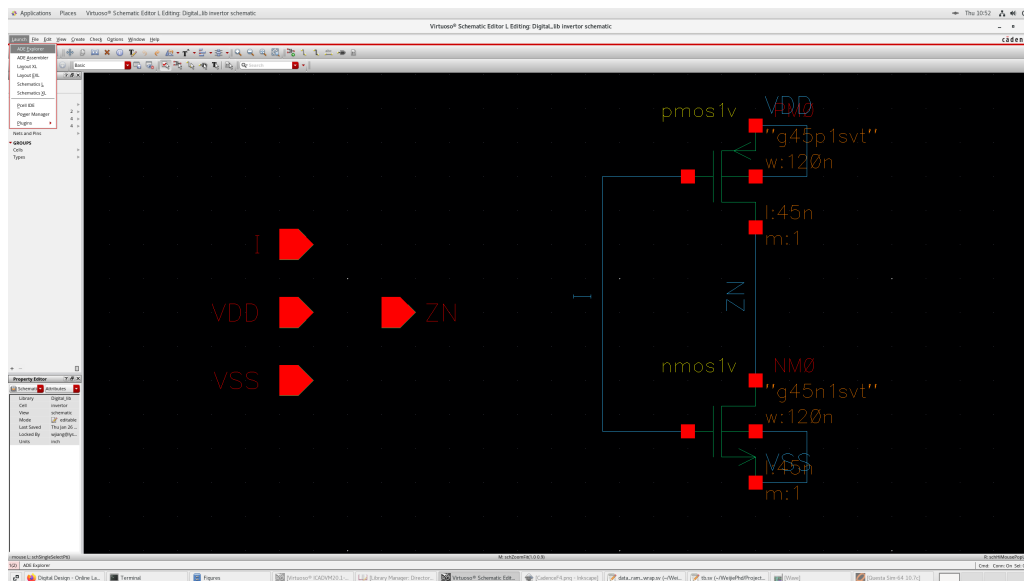

Figure 6: Launching ADE explorer
5. Next, we will **simulate our circuit using ADE explorer**. The circuit will be simulated using transient simulation. To do that, we need to set the stimuli for all the pins. Click on the "launch/ADE explorer" to start the software (Figure 6). Then choose to "create a new session". Leave the name as default and click "session" if anything related to license shows up. The ADE explorer will open in place of the schematic viewer.